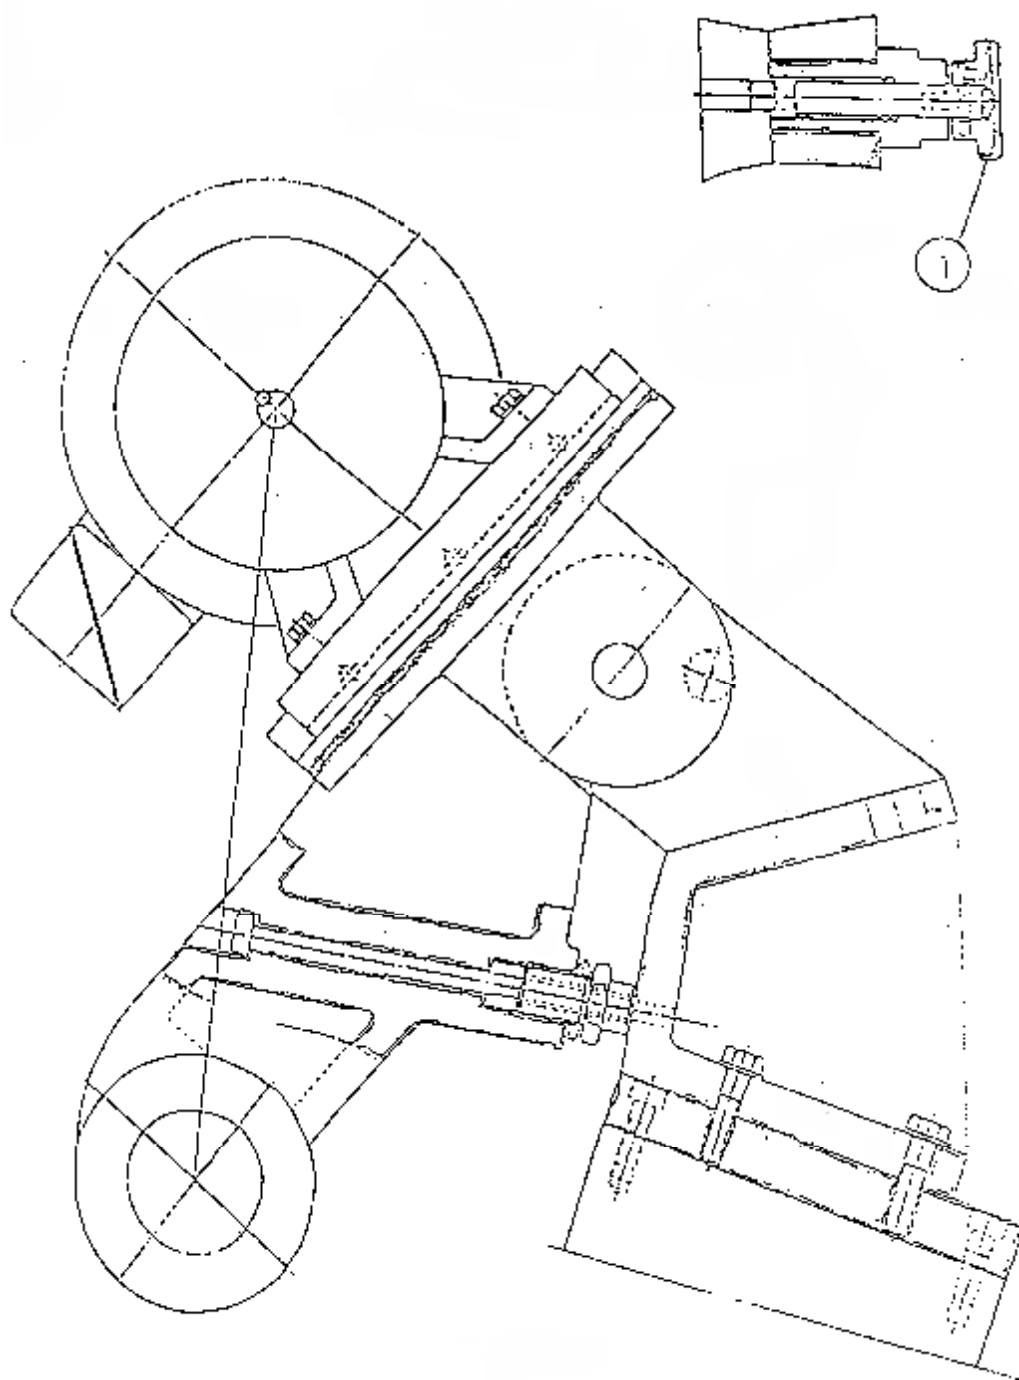

Fig.11
1. Pull the fixed pin outward to turn for 90 degree & release. (Fig. 11-•)